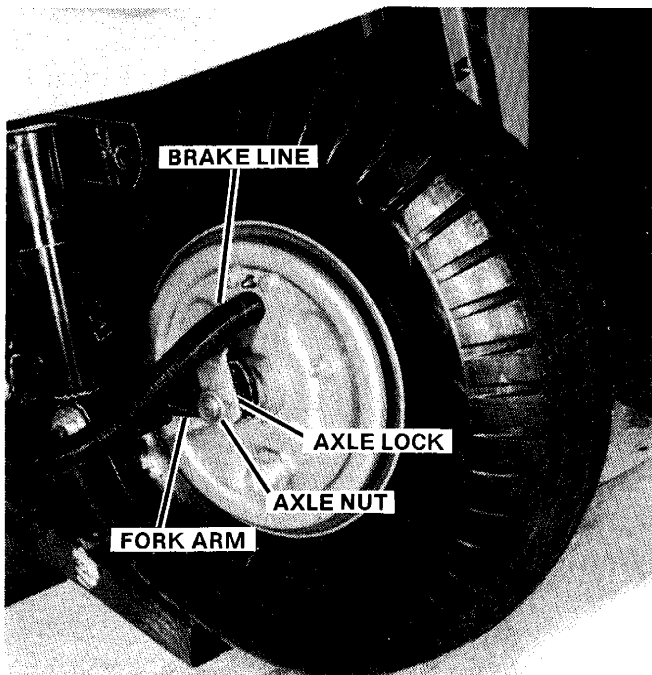

FIGURE 1
Remove axle nuts and drop wheel assembly. **DO NOT DISCONNECT HYDRAULIC BRAKE LINE.** (Figures 1 and 2). Remove the wheel bearing adjusting nut and separate the wheel and drum assembly from the brake backing plate and shoe assembly.
**SAFETY WARNING:** When reinstalling the front wheel and axle assembly to the fork side arm, the front axle lock must be positioned over the side arm (as shown) and the axle nuts tightened. (Figure 1.) Failure to follow the procedure may cause erratic steering and/or loss of control of the vehicle.